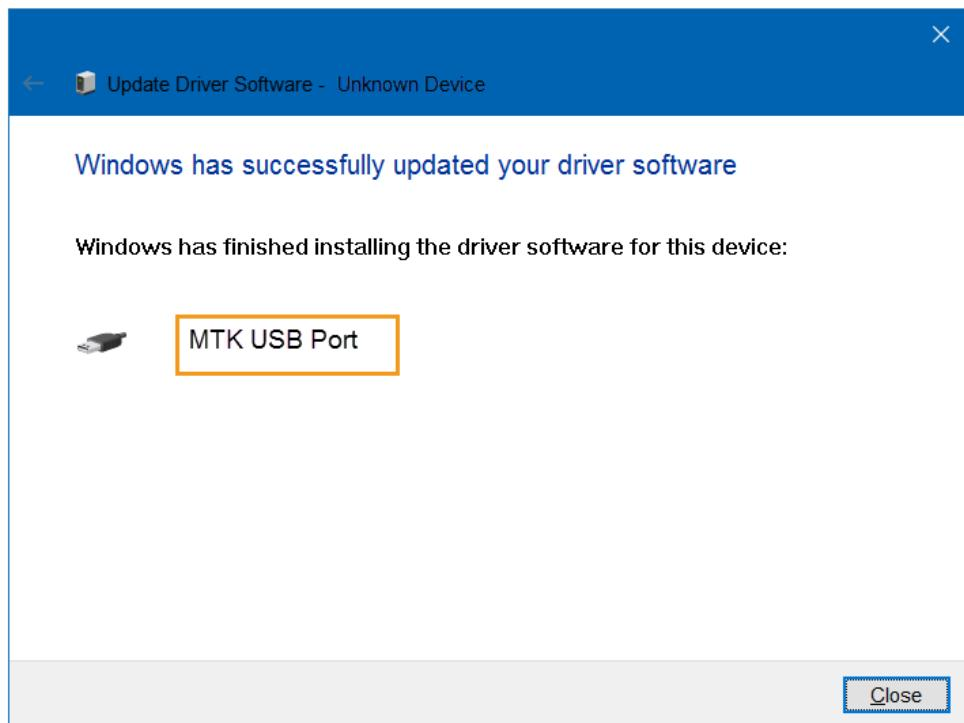

Figure 16. MTK USB Port on Windows 8 or later
- 47) Browse to the driver installation path, such as MS_USB_ComPort_Driver\v1.1032.1\Win7, then click **Next**. After a few seconds, the driver software and MTK USB Port device should be installed, as shown in Figure 16.